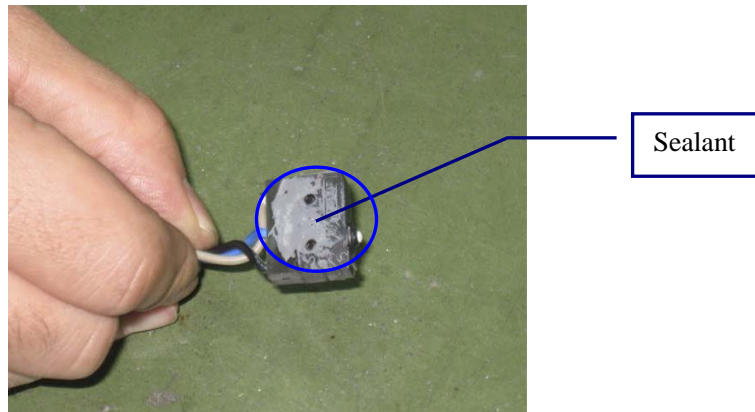

Figure 27: Apply Loctite 480
2. Apply a thin layer of sealant (Loctite 480 or equivalent) on brake switch mating surface. See Figure 27.